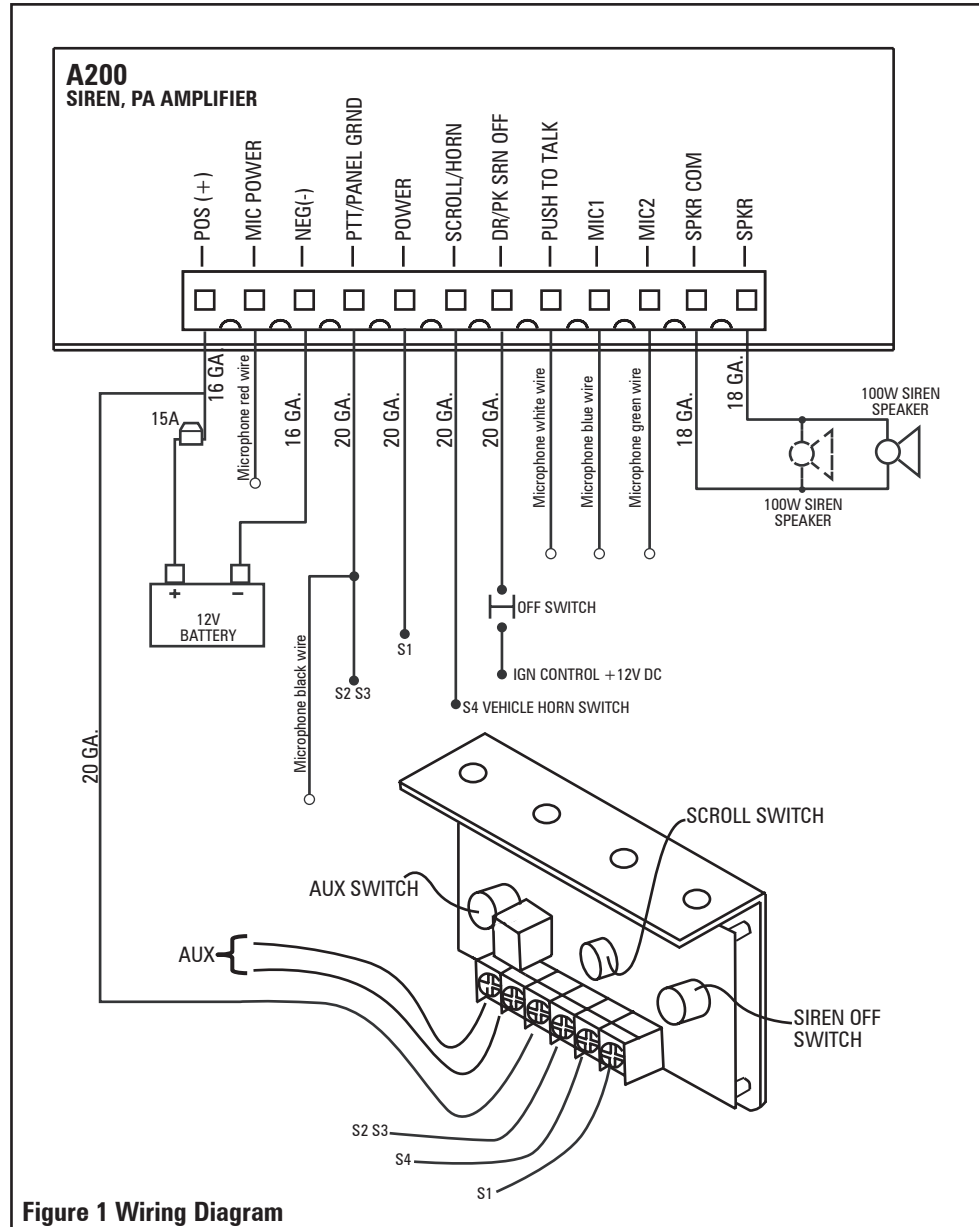

Figure 1 Wiring Diagram
2. SCROLL switch – The momentary switch on the middle of the panel. The siren tone will change each time the control switch is pressed (Wail, Yelp, PHSR). The siren will change to “Air Horn” mode if the control switch is held. From the Standby mode a short momentary push on the control switch will produce the wail siren tone. With each successive momentary signal on the remote input line, the siren scrolls to the next tone. The normal sequence of tones is: Wail, Yelp and PHSR. Holding the switch for a prolonged period will produce “Air Horn”. Each push on the vehicles horn switch will also sound vehicles horn as wired in Figure 1 on pg. 3.
The HORN-TAP feature allows the driver to enable and change the audible siren sound via the vehicle’s horn ring. All functions available through the switch “SCROLL/HORN” will also be available through the horn ring switch once the wire is connected. To use HORN-TAP feature, the SCROLL/HORN on the amplifier box should connect to the vehicle’s horn ring switch. See figure 1 - Wiring Diagram and Installation section, Electrical Installation e. 4 for instructions of wiring on SCROLL/HORN.
5. The unit is supplied with an accessory kit with a twelve-position pluggable connector to accommodate the electrical installation. Strip 1/4" of insulation from the end of the wires. Insert the wire into the green pluggable connector and tighten the screw at the appropriate connector position (see figure 1-Wiring Diagram). The other end of "PTT/PANEL GRND" and "POWER" and "SCROLL/HORN" into the quick-on connector (supplied) and cramp securely with proper tool.